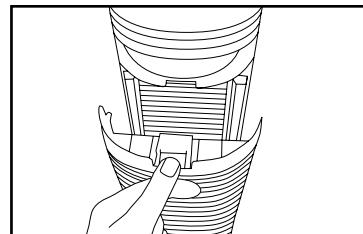

Fig. 1
1. To check filters, open the rear grill by gently pushing down on the release tab on the top of the rear grill. Fig. 1